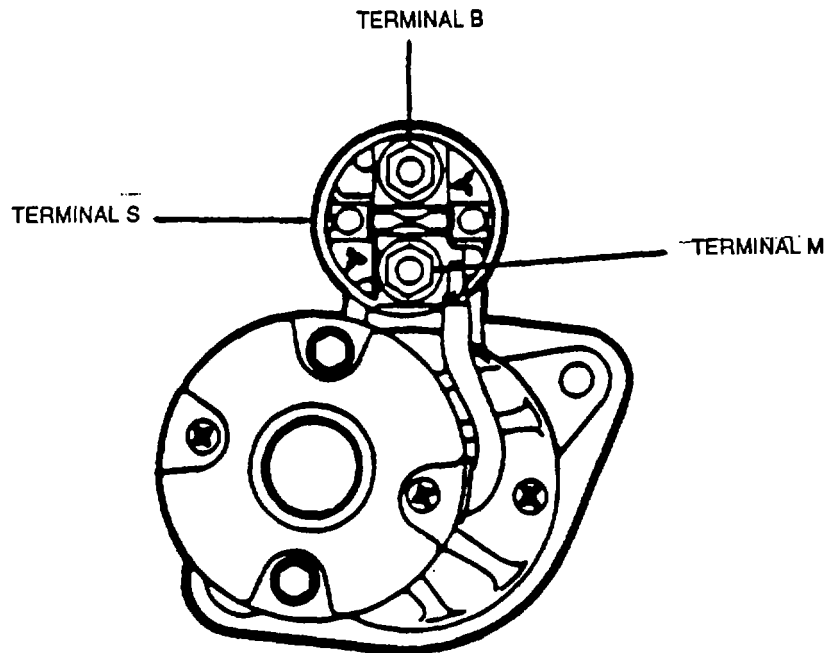

FIGURE 3-24. Solenoid Terminals
- (1) Check for continuity between solenoid terminals M and B with a multimeter, refer to FIGURE 3-24.
- (2) No continuity should be indicated when solenoid plunger is in normal (out) position.
- (3) Push solenoid plunger in and observe multimeter. Multimeter should indicate continuity. If no continuity is indicated, solenoid must be replaced.